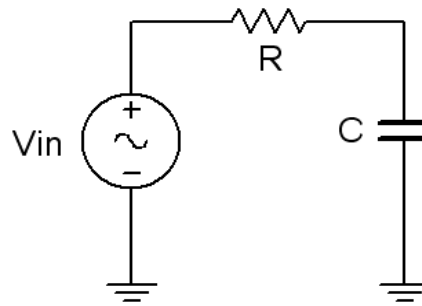

Figure 4.1
1. Using figure 4.1 with  $V_{in}=10$  V p-p and  $R=10$  k $\Omega$ , and assuming that the reactance of the capacitor is much smaller than 10k and can be ignored, determine the circulating current using measured component values and record in Table 4.1.
2. Build the circuit of figure 4.1 using  $R=10$  k $\Omega$ , and  $C=1$   $\mu$ F. Place one probe across the generator and another across the capacitor. Set the generator to a 200 Hz sine wave and 10 V p-p. Make sure that the *Bandwidth Limit* of the oscilloscope is engaged for both channels. This will reduce the signal noise and make for more accurate readings.